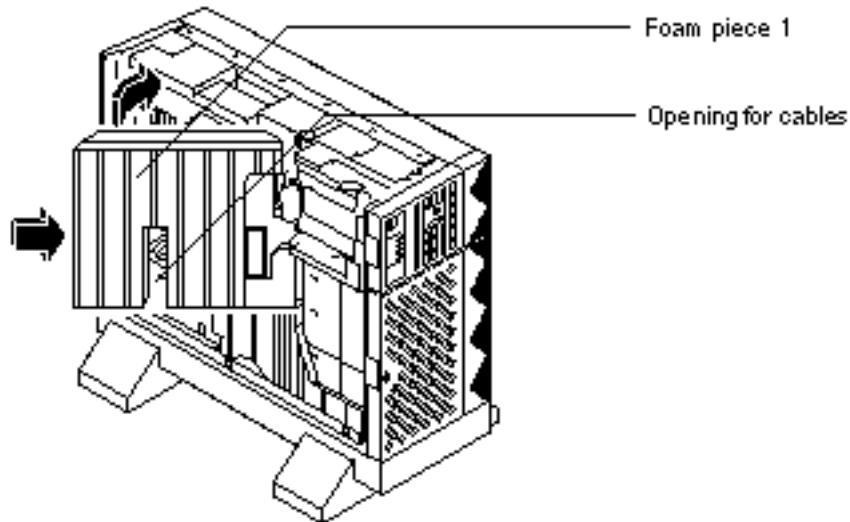

Figure 2-25 Replacing Foam Piece 1
1. Insert the right side of Foam Piece 1 into its proper location (Figure 2-25).
3. **If necessary, fit the power cables in the opening located in the center of Foam Piece 1 (Figure 2-25).**